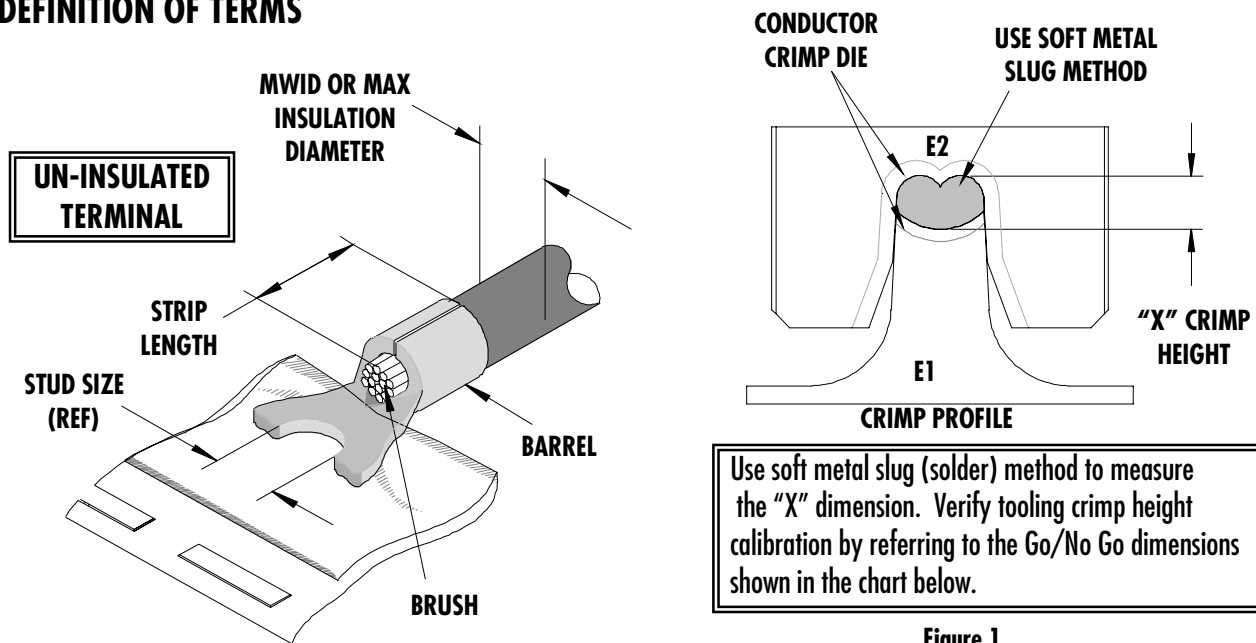

Figure 1
3. The recommended method of measuring the crimp height of the conductor dies is the soft metal slug method, (See Figure 1).